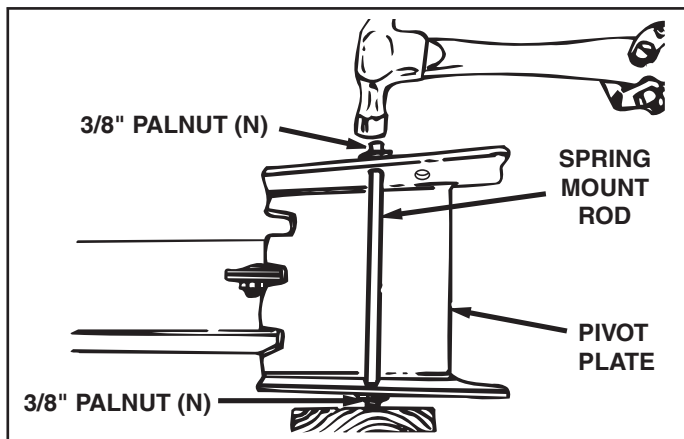

FIGURE 15 (Top View)
STEP 15: (SEE FIGURE 15)
- Use a hammer to tap a 3/8" palnut (N) onto one end of the spring mount rod. Insert the rod through the rear set of holes in the pivot plate. Support the assembled end of the spring mount rod on a block of wood, and tap the remaining 3/8" palnut (N) onto the other end of the rod.